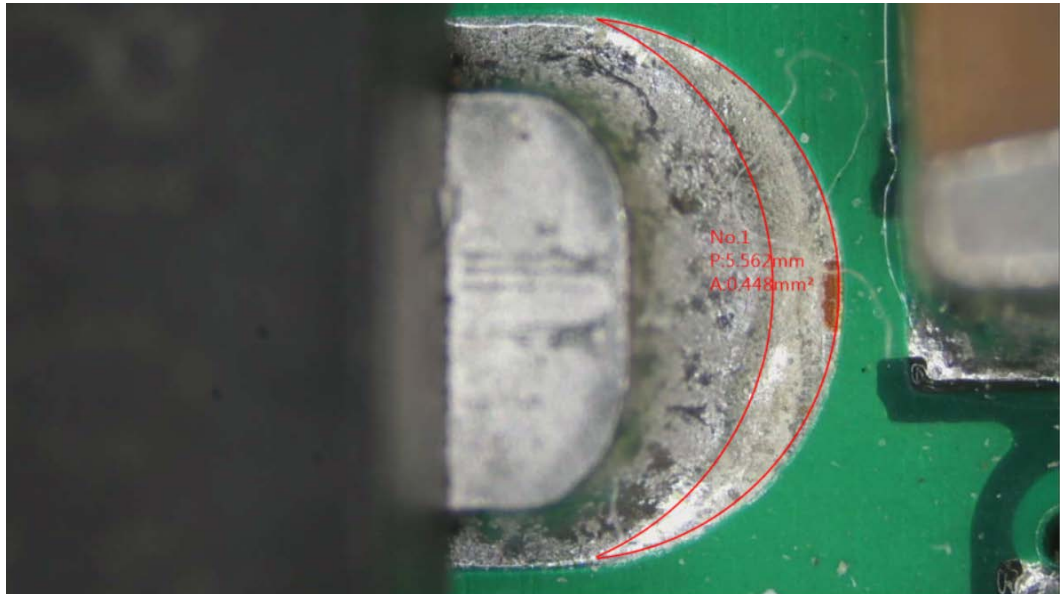

Fig 5-29 Measure Lune Shape
(18) Lune Curve: Measure Lune  shape, such as the area of solder amount on components, first two clicks on the left and right point of lune shape, thirdly click on the outer shape of lune shape, then the last click on the inner curve of lune shape. 4 clicks to make a Lune shape. See Fig 5-29.